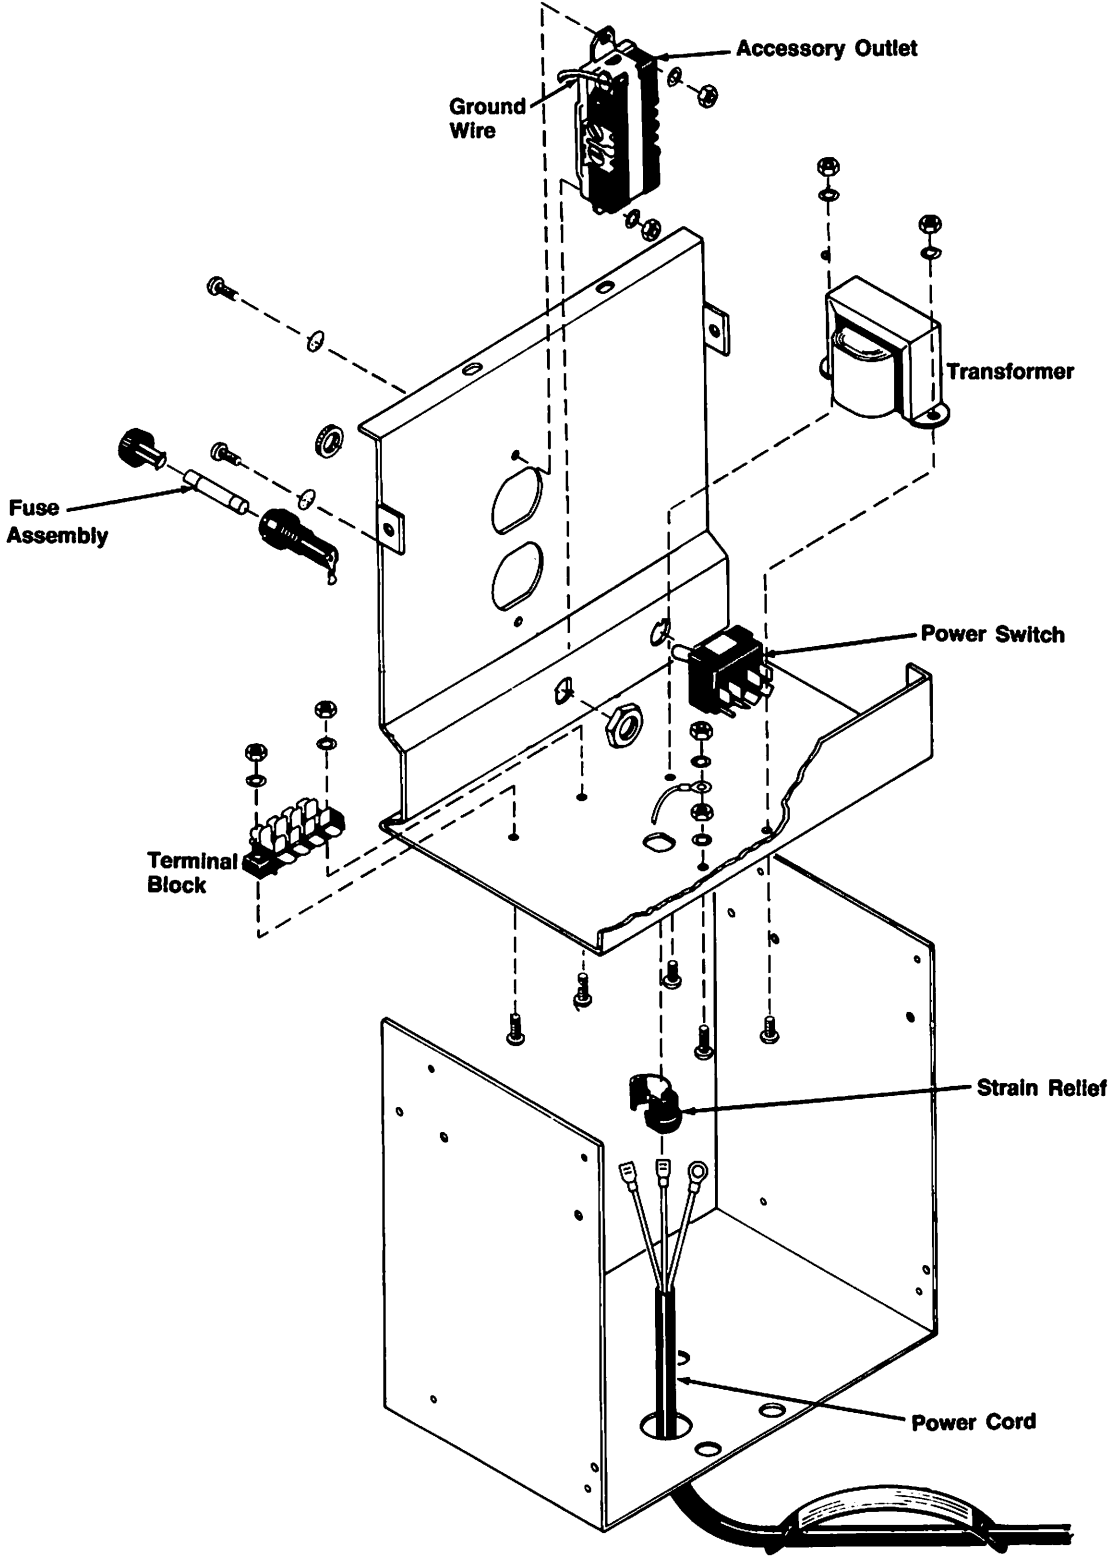

Figure 9-19
M. Power Switch Replacement (Figure 9-19)